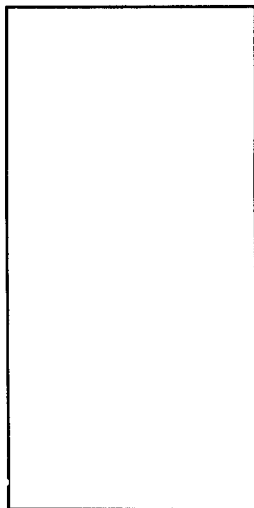

Fig.3
10. Complete Figure 3 to show the rear elevation of a 1982 x 762, ledged, braced and battened door. Indicate also the following :-